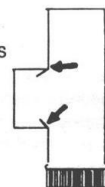

FIGURE 6
12. From the base of the chimney, remove the adhesive tape and the support rope. Proceed to install the tee connector through the appliance opening. Fasten the connector in place using the 2 draw bolts provided. Fold the metal strips over the inside of the connector (see figure 6). In the case of a fireplace insert, install the inclined sections and the offset from the inside of the fireplace opening.